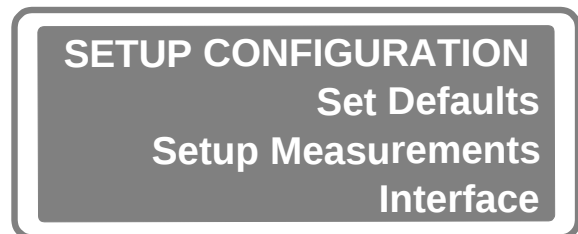

Figure 10. Initial Setup Display
1. Press the **SETUP** key while viewing Results Data to bring up the SETUP CONFIGURATION menu. See Figure 10.